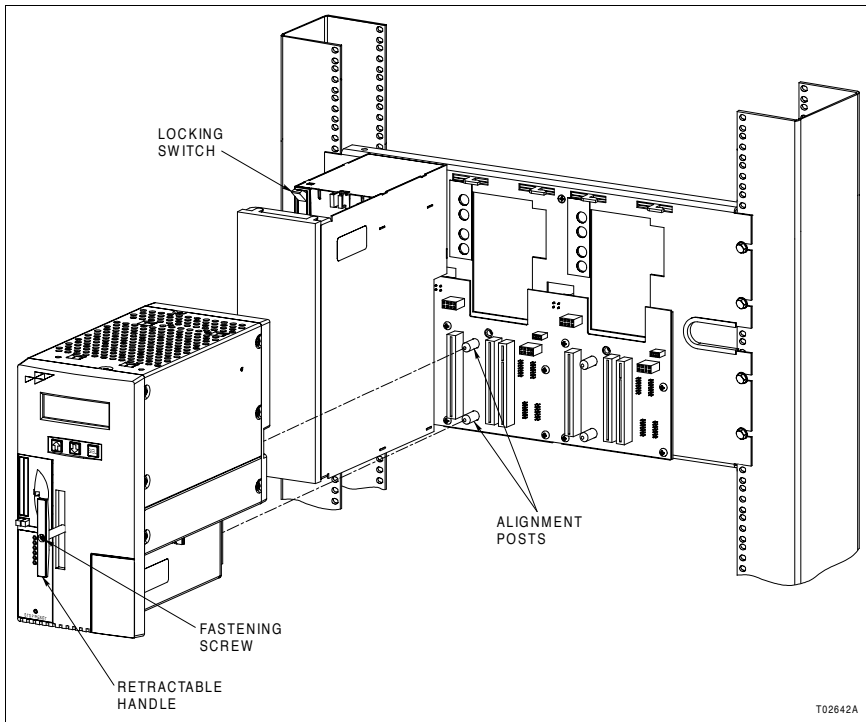

Figure PR3-1. Controller Module Attachment
-  2. Flip the locking switch located on the termination unit assembly up to unlock the controller module latching mechanism (Fig. PR3-1).